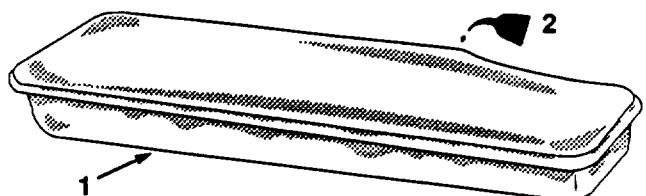

Figure 28
3. Saturate foam element in oil (Fig. 28) and squeeze the element to remove the excess oil.